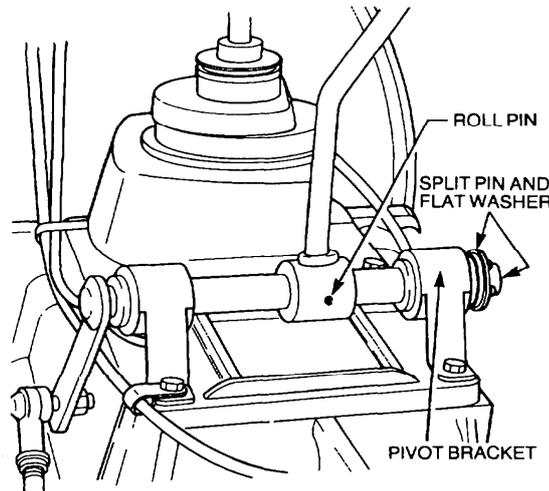

Figure 60 Transfer Case Selector Lever Removal
- Tap out the roll pin securing the transfer case selector lever to the cross shaft (Figure 60).
- Install the roll pin to secure the lever to the cross shaft (Figure 60).